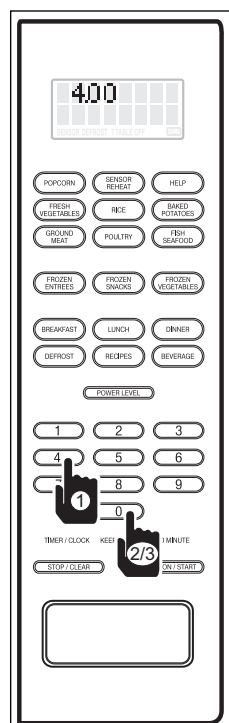

Figure 3-36.
1. Enter desired defrost time duration. For example: 4 minutes; press the number 4 key, then the number 0 key twice (See Figure 3-36), and the display will flash "4.00 - PRESS START - OR PRESS - POWER LEVEL".